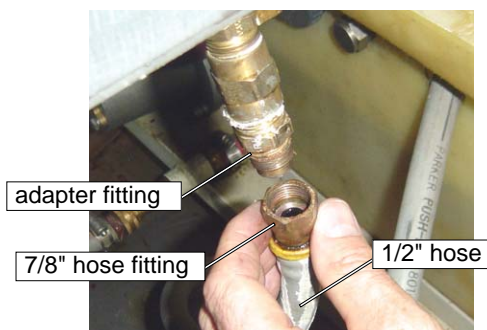

Figure 26: Connect the Hose Fitting to the Adapter Fitting.
9. Reconnect the 1/2" water hose using a 7/8" open wrench to the adapter fitting beneath the ADO (Figure 26).